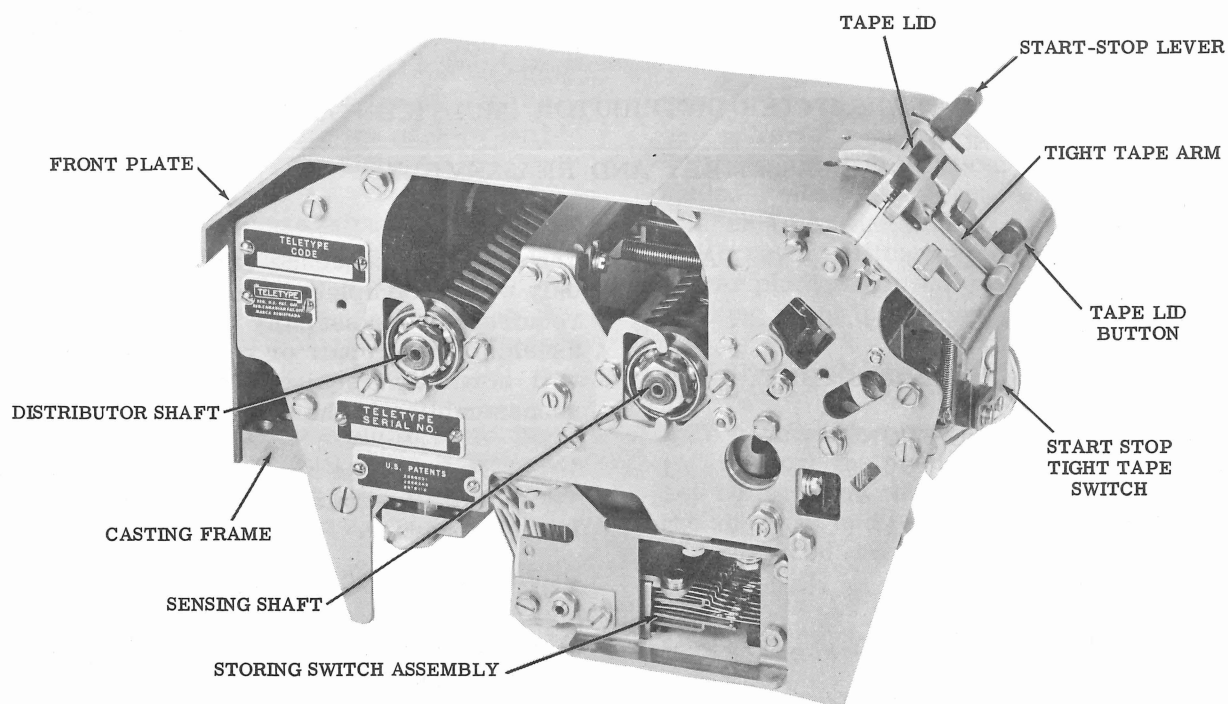

Figure 1 - 35 Transmitter-Distributor, Side View
2. DISASSEMBLY AND REASSEMBLY (FIGS. 1 AND 2)